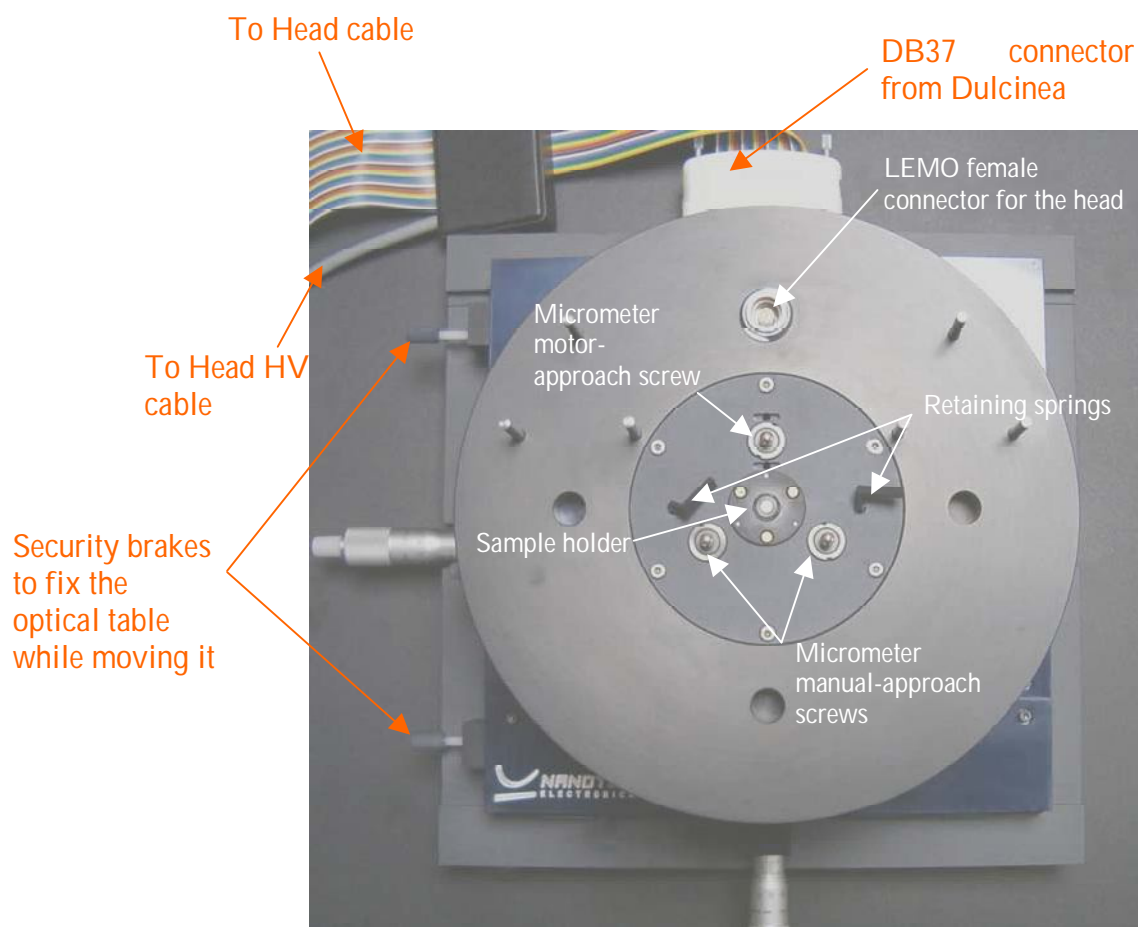

Fig.2.2 Chassis top view
- To finish with the AFM Hardware, we will discuss how to use the Retaining Springs (see Fig. 2.2).
Once you have placed a sample on the sample holder, you will position the AFM head (with the cantilever holder and a cantilever) on the micrometer approach screws (see Fig. 2.2). At this time, you have to use the Retaining Springs to fix the head to the chassis. These springs act as a final antivibration measure.
- The micrometric motor-approach screw in the chassis (see Fig. 2.2) can also be moved by hand after pushing down the motor. If you move it in this way, make sure that after the movement the white, plastic coupling piece is perfectly aligned, otherwise, the micrometer screw will not move with the motor.